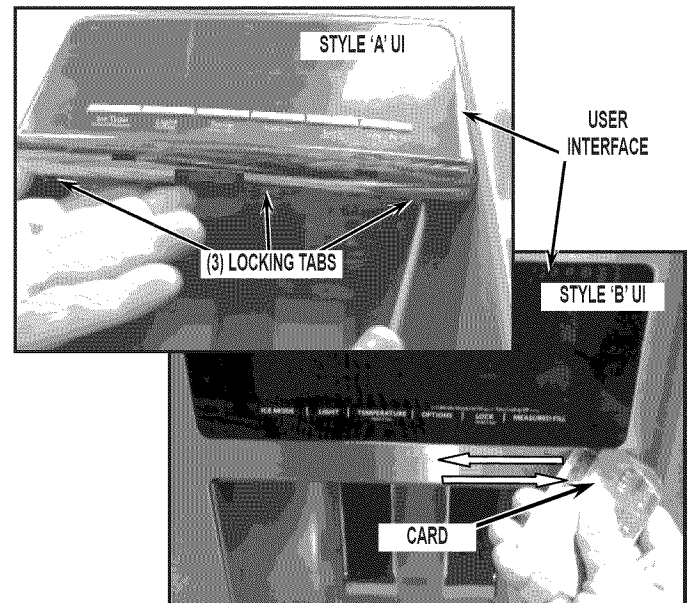

FIGURE 4
5. Remove user interface (UI). Method used depends on style of UI. See *Figure 4*.
- If UI is like Style 'A', remove UI by using a flat blade screwdriver from below to release three (3) locking tabs.